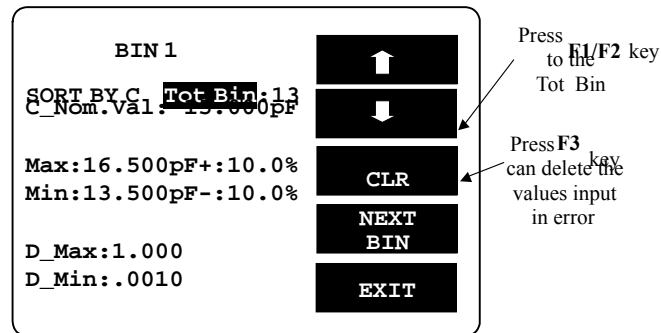

Figure 8-15
- Press  key. Please refer to Figure 8-15 below.